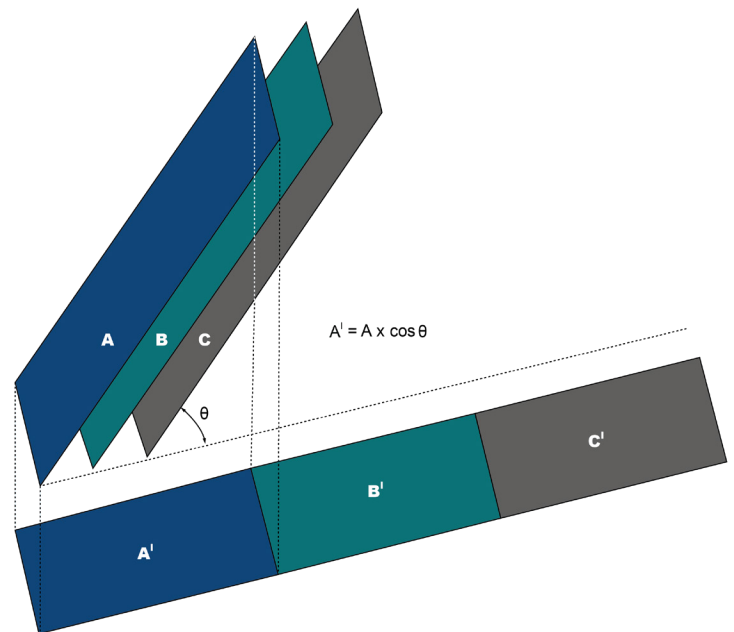

Fig. 2. Horizontal projection of equivalent surface area in lamella systems
- **Surface Area.** Projected surface area of the plate or tray is defined as the vertically-projected 2D area (Fig. 2). Therefore, the angle of incline influences projected surface area, with shallower angles of incline producing larger projected areas. Projected surface area is used to calculate surface overflow rate. When projected surface area is used to calculate surface overflow rate, the area of the surface of the water above and the area of the floor below the settling plates is neglected as that area is already included in the calculations.